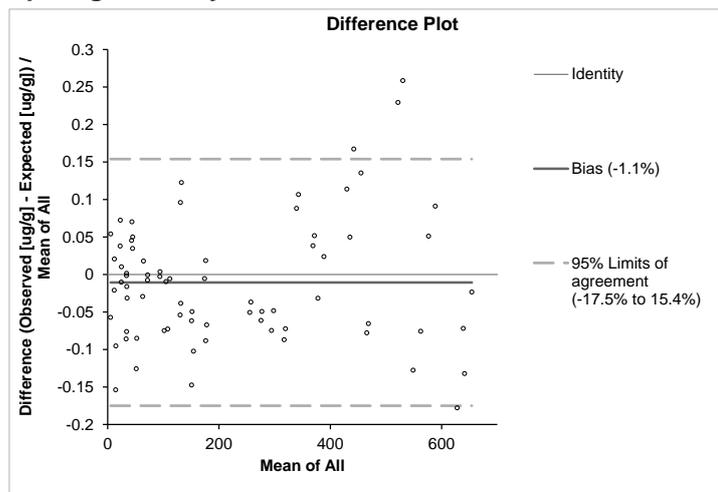

Figure 4
**Spiking Recovery. Total bias: -1.1 %; Lower Limit of Agreement: -17.5 %, Upper Limit of Agreement: 15.4 %.** Four negative extracted stool samples were spiked with increasing amounts of calprotectin from serum specimens. The results are presented in Figure 4.